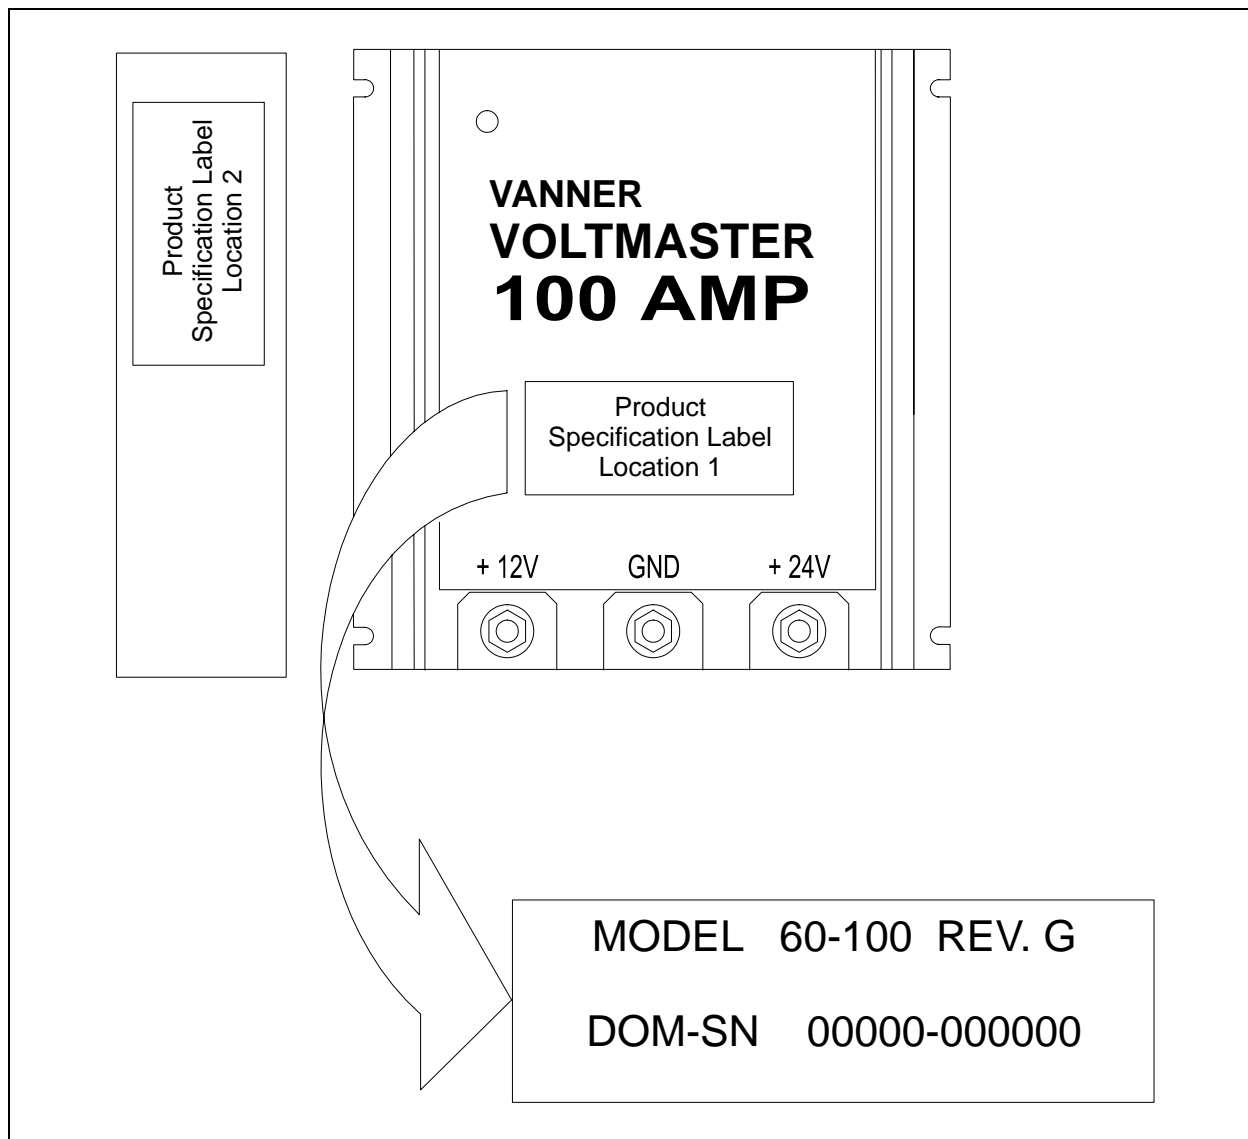

FIGURE 1: IDENTIFICATION LABEL ON BATTERY EQUALIZER
2. Locate the Product Specification Label affixed to the battery equalizer (refer to figure 1 for location);
3. Confirm that the battery equalizer is a 60-60 Amp or 60-100 Amp series model. Also, the date of manufacture (DOM) code must be between 98328 (the 328th day of 1998) and 00203 (the 203rd day of 2000). The DOM is the first five digits in the series, the rest being the serial number (refer to figure 1).